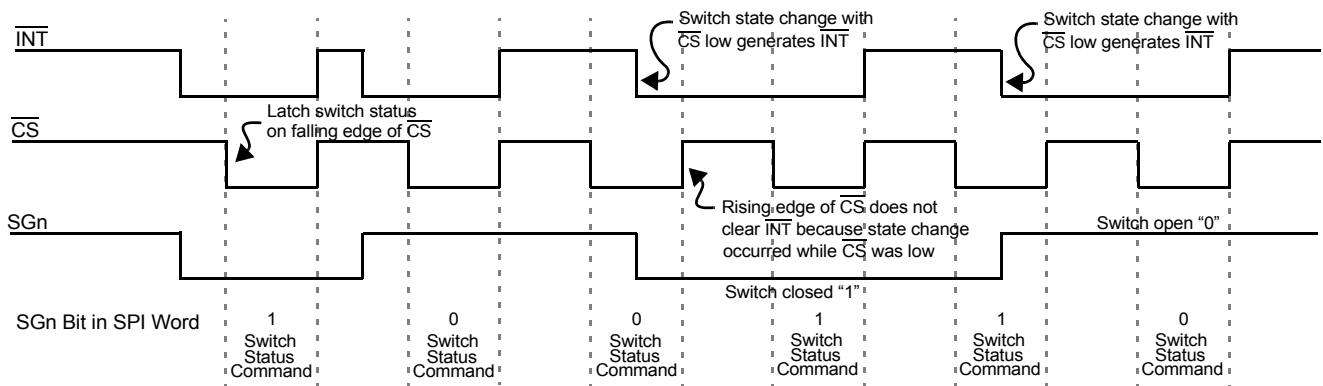

Figure 6. Normal Mode Interrupt Operation
1. \overline{INT} pin is reset to logic [1], except when additional switch changes occur during \overline{CS} low (see Figure 6, page 11).
Figure 6, page 11, is a graphical description of the device operation in Normal Mode. Switch states are latched into the input register on the falling edge of \overline{CS} . The \overline{INT} to the MCU is cleared on the rising edge of \overline{CS} . However, \overline{INT} will not clear on the rising edge of \overline{CS} if a switch has closed during SPI communication (\overline{CS} low). This prevents switch states from being missed by the MCU.